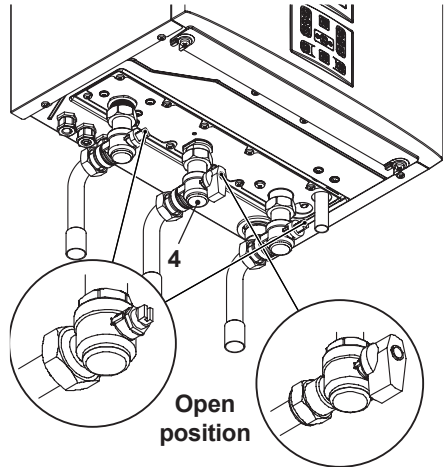

Fig. 7.1
- Inspect the entire installation including the gas meter, test for tightness and purge, all as described in BS 6891; For Ireland (IE), refer to I.S.813.2002.
- Open the gas cock 4 (Fig. 7.1) on the appliance and check the gas connector on the appliance for leaks.